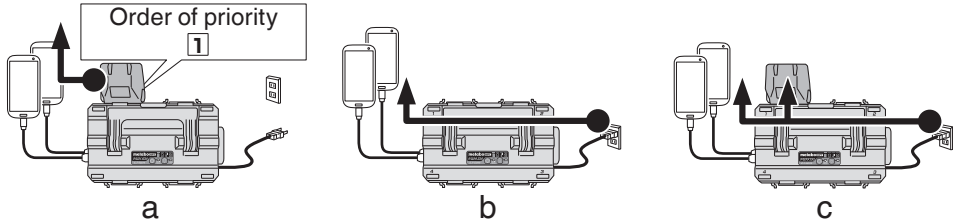

Fig. 5
- Charging a USB device by battery (Fig. 5-a)
- Charging a USB device from a electrical outlet (Fig. 5-b)
- Charging a USB device and battery from a electrical outlet (Fig. 5-c)